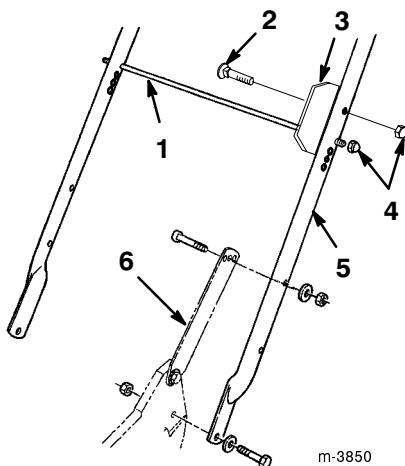

Figure 2
2. Secure the handle latches to the handle with two 5/16-18 x 1-1/2 in. (8 mm x 38 mm) cap screws, washers, and nylon insert locknuts (Fig. 2).
3. Slide the bag support rod through the bag aligning plate and into the second from the top mounting holes in the handle and secure each end with a cap locknut (Fig. 2).